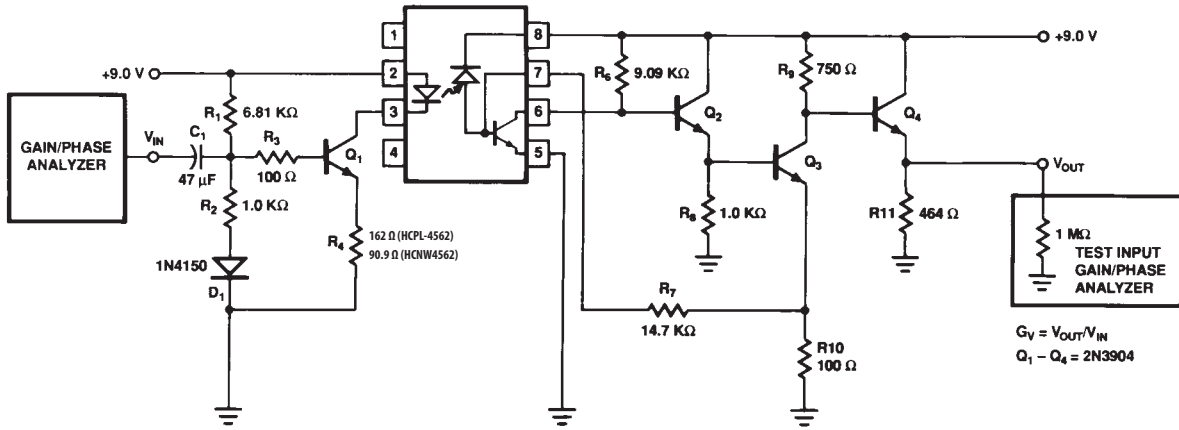

Figure 1. Gain and bandwidth test circuit
- When used in the circuit of Figure 1 or Figure 4;  $G_V = V_{OUT}/V_{IN}$ ;  $I_{FQ} = 6\text{ mA}$  (HCPL-4562),  $I_{FQ} = 10\text{ mA}$  (HCNW4562).